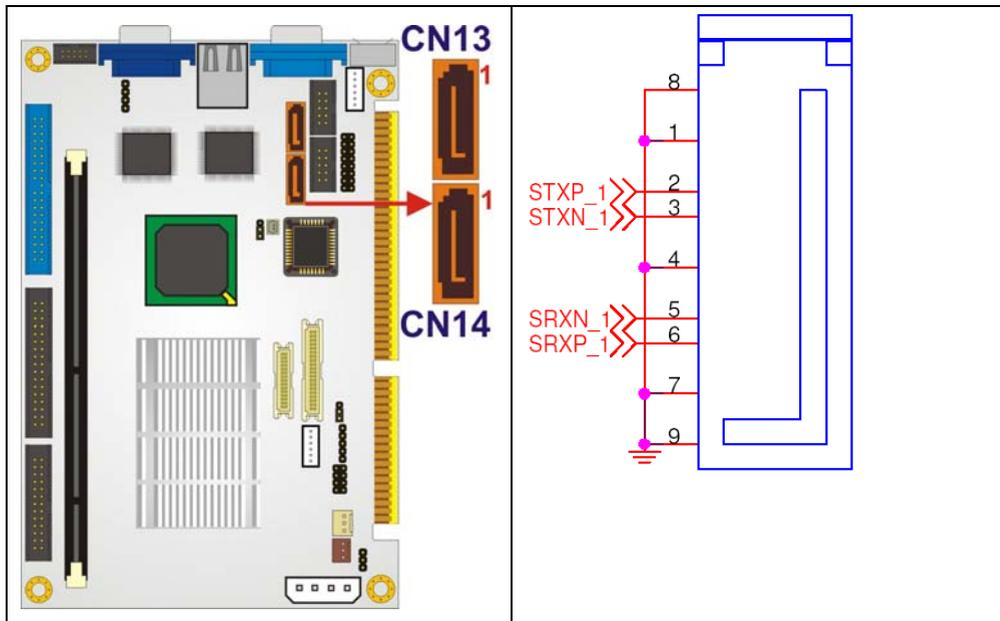

Figure 4-19: SATA Drive Connector Locations
- CN Location:** See Figure 4-19